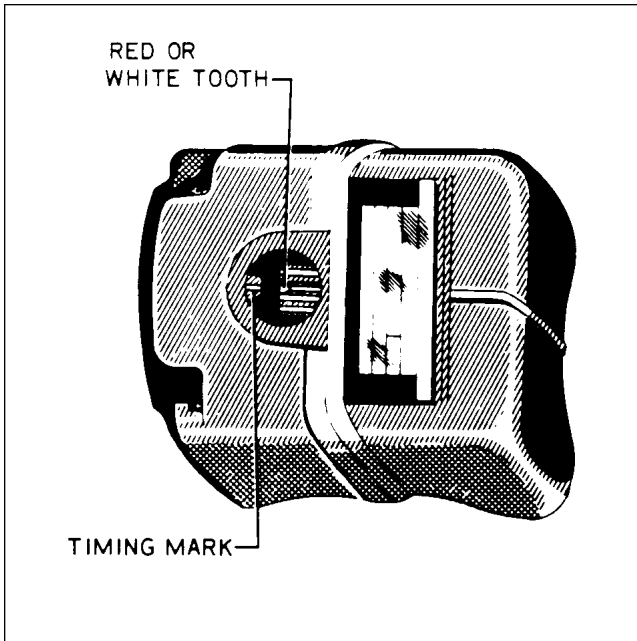
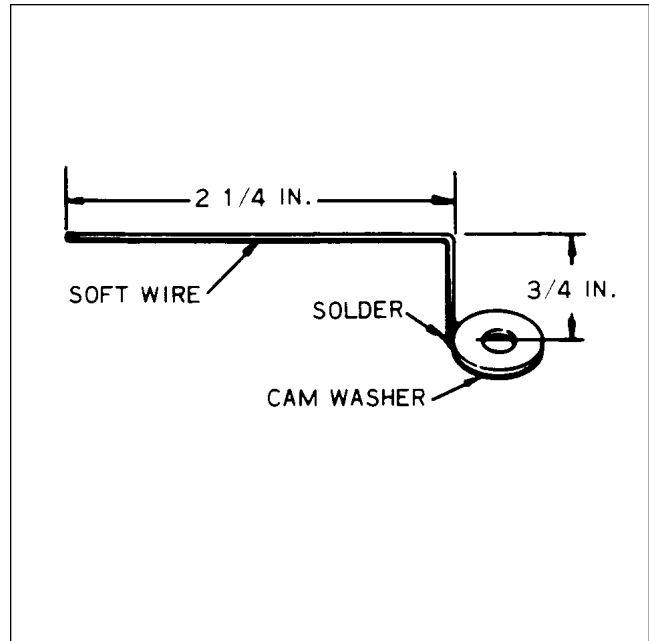

Figure 74-11. Magneto Timing Marks
Figure 74-12. Timing Pointer
- c. With timing plate and pointer attached (Refer to Figure 74-12.) and pointer set at zero, rotate coupling from neutral in normal direction of rotation 10 degrees. Look through timing hole, align red (or white) gear tooth with white line of distributor block. (Refer to Figure 74-11.) Alignment may not vary over ± 4 degrees.
A timing kit, including timing plate, etc., may be purchased from the engine or magneto manufacturer. Pointer may be formed as per Figure 74-12. Pointer can also be made by wrapping a piece of soft wire tightly around head of cam securing screw and bending it to extend over timing marks.